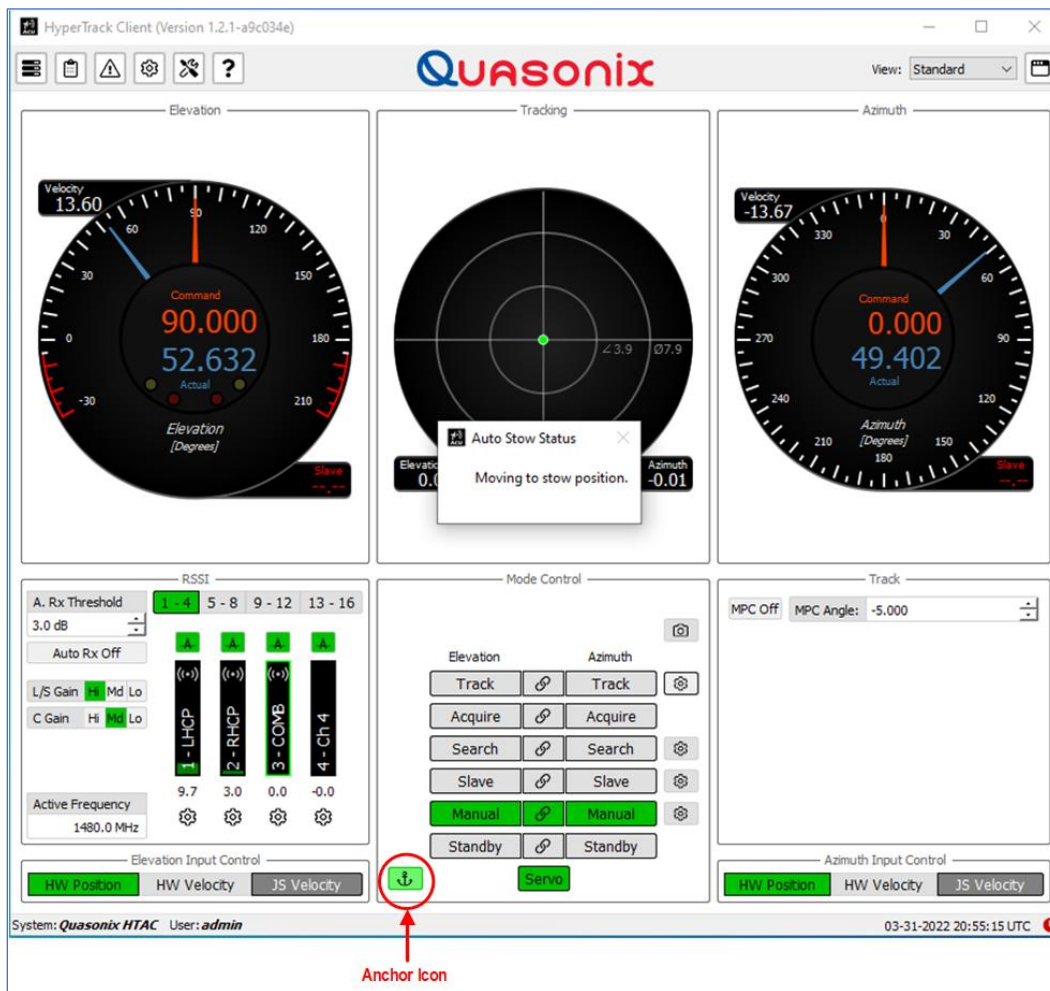

Figure 125: Auto Stow Status Message, Moving to Stow Position
- Both Manual buttons enable (green) and the system drives to the (saved) stow position, as shown in Figure 125.
- When at the stow position the Auto Stow pin drives into the stow receptacle. As it moves into the stow receptacle, the Anchor icon blinks green (Figure 125)